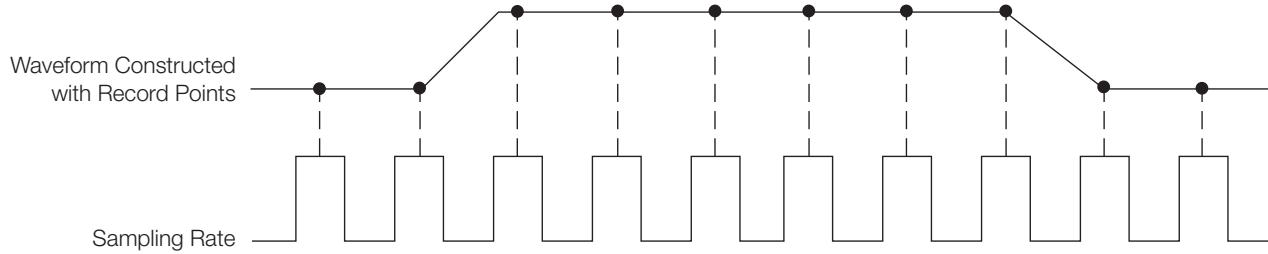

Figure 29. Real-time sampling method.
**Real-time sampling** is ideal for signals whose frequency range is less than half the oscilloscope's maximum sample rate. Here, the oscilloscope can acquire more than enough points in one "sweep" of the waveform to construct an accurate picture, as shown in Figure 29. Real-time sampling is the only way to capture fast, single-shot, transient signals with a digital oscilloscope.